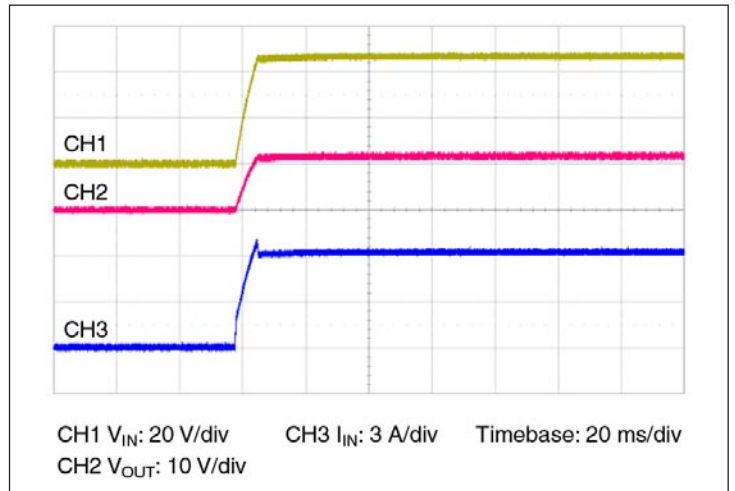

Figure 10 — Start up from application of V_{IN}; VC pre-applied C_{OUT} = 375 μF
- Normal operation (VC applied prior to V_{IN}): In this case the controller is active prior to ramping the input. When the input voltage is applied, the VTM module output voltage will track the input (See Figure 10). The inrush current is determined by the input voltage rate of rise and output capacitance. If the VC voltage is removed prior to the input reaching 26 V, the VTM may shut down.